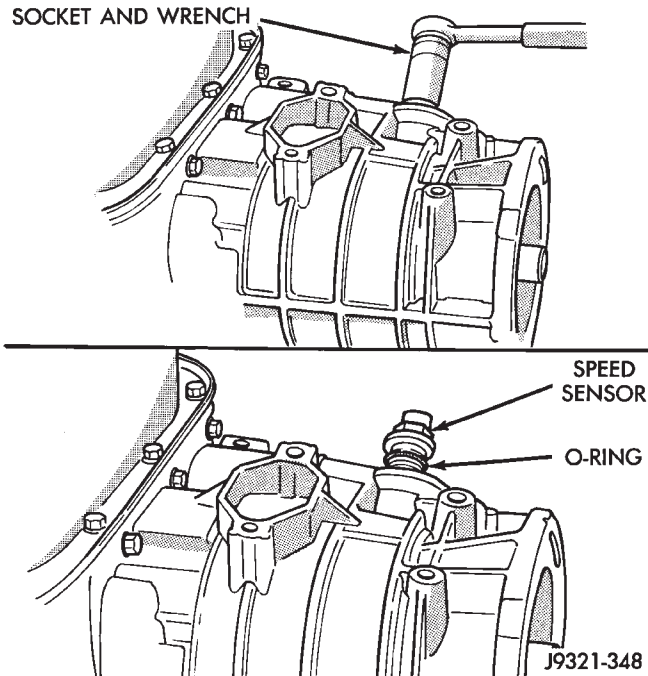

Fig. 187 Transmission Speed Sensor
(60) Install throttle valve and shift selector levers on valve body manual lever shaft.
(61) Cap or cover transmission openings (cooler line fittings, filler tube bore, etc.) to prevent dirt entry.
(62) Install torque converter. Use C-clamp or metal strap to hold converter in place for installation.
(63) Install transmission speed sensor in overdrive case (Fig. 187).
(64) Mount transmission on jack for installation in vehicle.
(65) Apply dielectric grease to terminal pins of solenoid case connector and neutral switch.